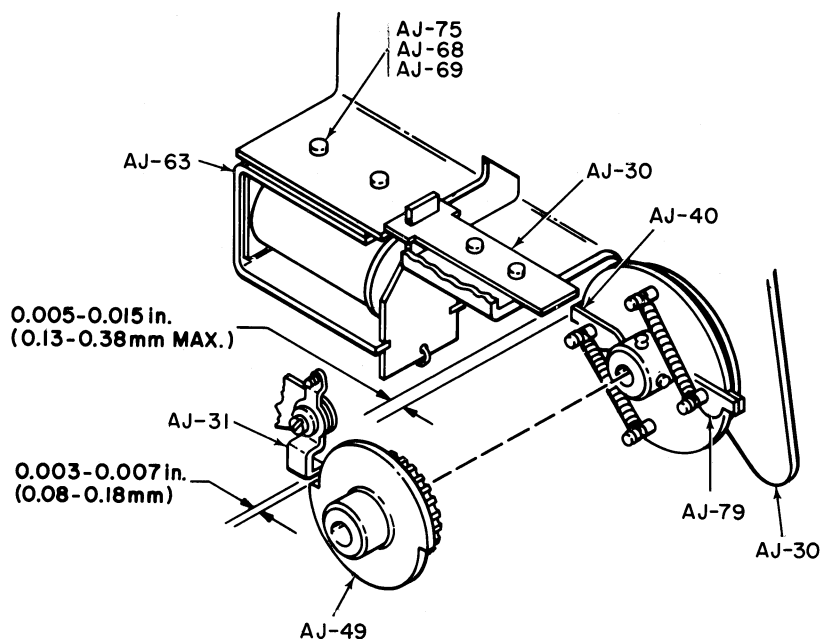

Figure 5-12. TWO ADJUSTMENTS, PAPER FEED MECHANISM (AJ)
To adjust proper distance of armature slide (part of chassis, AJ-30) with respect to holding the raised tab on paper feed clutch, inner cam (AJ-40) (prior to line feed release), perform the following steps: (Refer to Fig. 5-12 below and mechanical drawing (Fig. AJ, Section 8)).
As the raised tab on inner cam (AJ-40) and clutch release pawl (AJ-79) strike the armature slide (completing a line feed), it is at this point that the back stopper pawl (AJ-31) (See Fig. 5-12) drops off the notched end of the cam (AJ-49) (Fig. 5-12) and must be adjusted in this position (preventing counter rotation or downward movement of paper).
1. Loosen allen screws (AJ-62) on stop cam (AJ-49) and maintain a gap of 0.003-0.007-in. max. (0.08-0.18 mm) between back stopper and notch on cam (See Fig. 5-12). Tighten allen screws on stop cam when gap is attained.